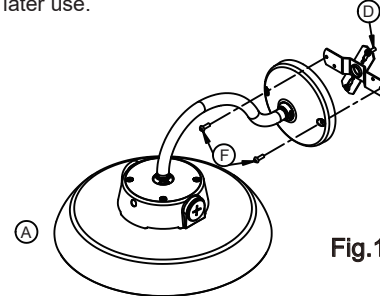

Fig.1.
1. Remove the mounting bracket (D) from the back of the fixture by removing the mounting bracket screws (F) (fig 1). Retain screws for later use.